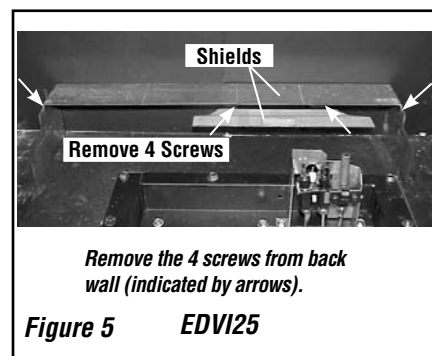

Figure 5 EDVI25
5. (EDVI25 only) Remove the two shields shown in **Figure 5**.